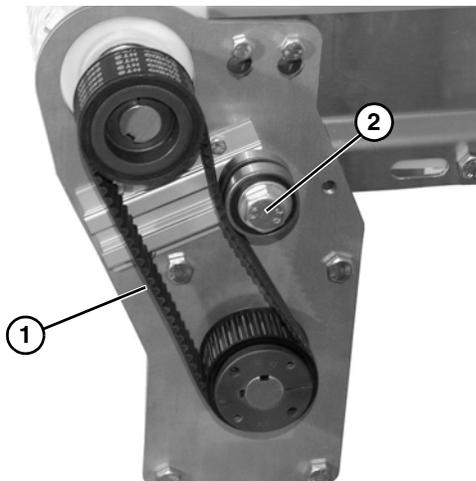

Figure 11
10. Tension timing belt to obtain 1/8" (3 mm) deflection for 6 lb (3 Kg) of force at timing belt mid-point (**Figure 11, item 1**). Tighten tensioner screw (**Figure 11, item 2**) to 110 in-lb (12 Nm).